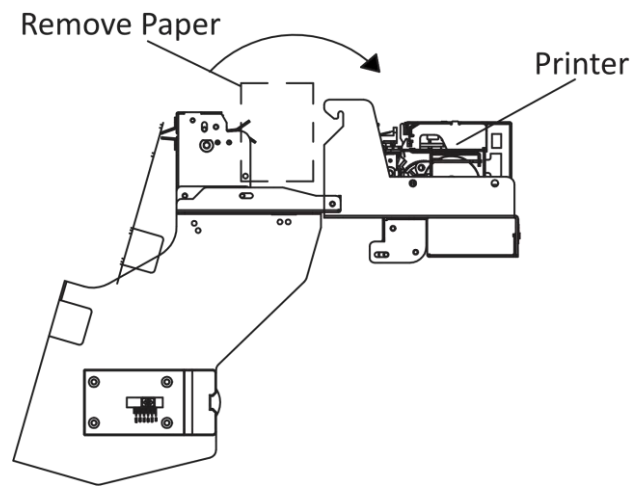

Figure 2-13 Remove Paper
3. Turn the printer head as shown in Figure 2-13 Remove Paper.